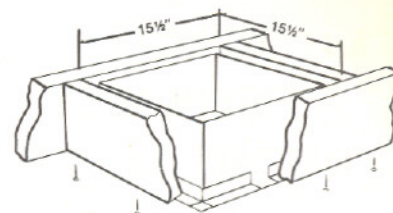
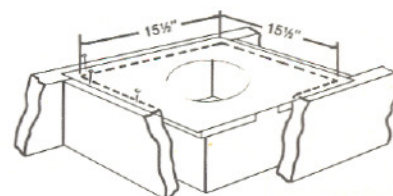

FIG. 6
FIG. 7
9. **FIRESTOP SPACER** is installed next, as shown in Fig. 6, for all openings not at attic level; as shown in Fig. 7 for opening leading to an attic. Nail through flanges into joists and "box" members. Do not pack insulation into areas between Firestop Spacer and joists. **OFFSET NOTE:** When hanger straps of Offset Return interfere with normal "upward" installation, install Firestop Spacer "downward" (Fig. 7).